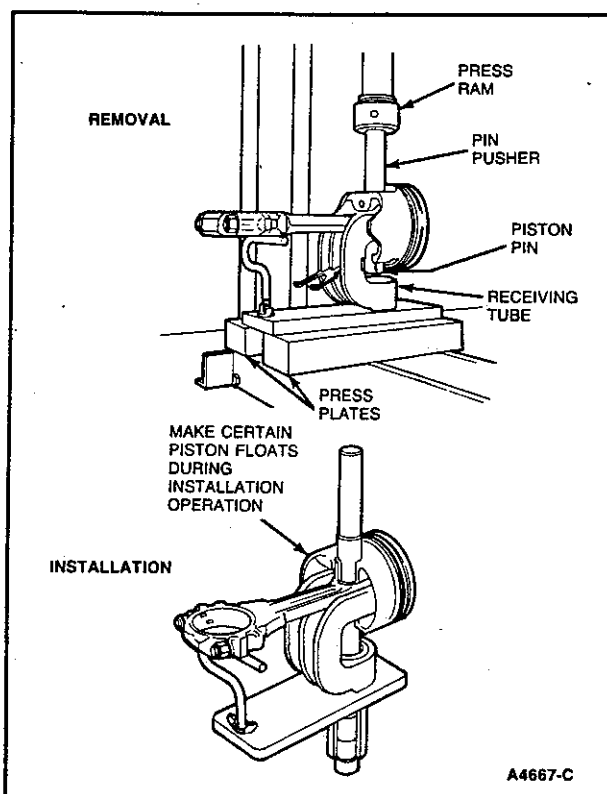

Figure 79 Removing or Installing Piston Pin
3. Using an Arbor press and the tool shown in Figure 79, press the piston pin from the piston and connecting rod. Remove the piston rings.